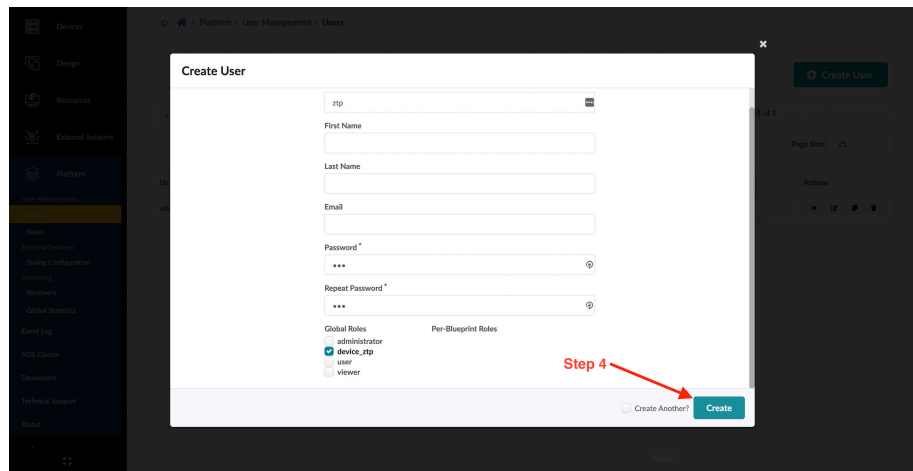

Figure 3.13 Creating a New User
Step 3: Add in the required information. See Figure 3.13.